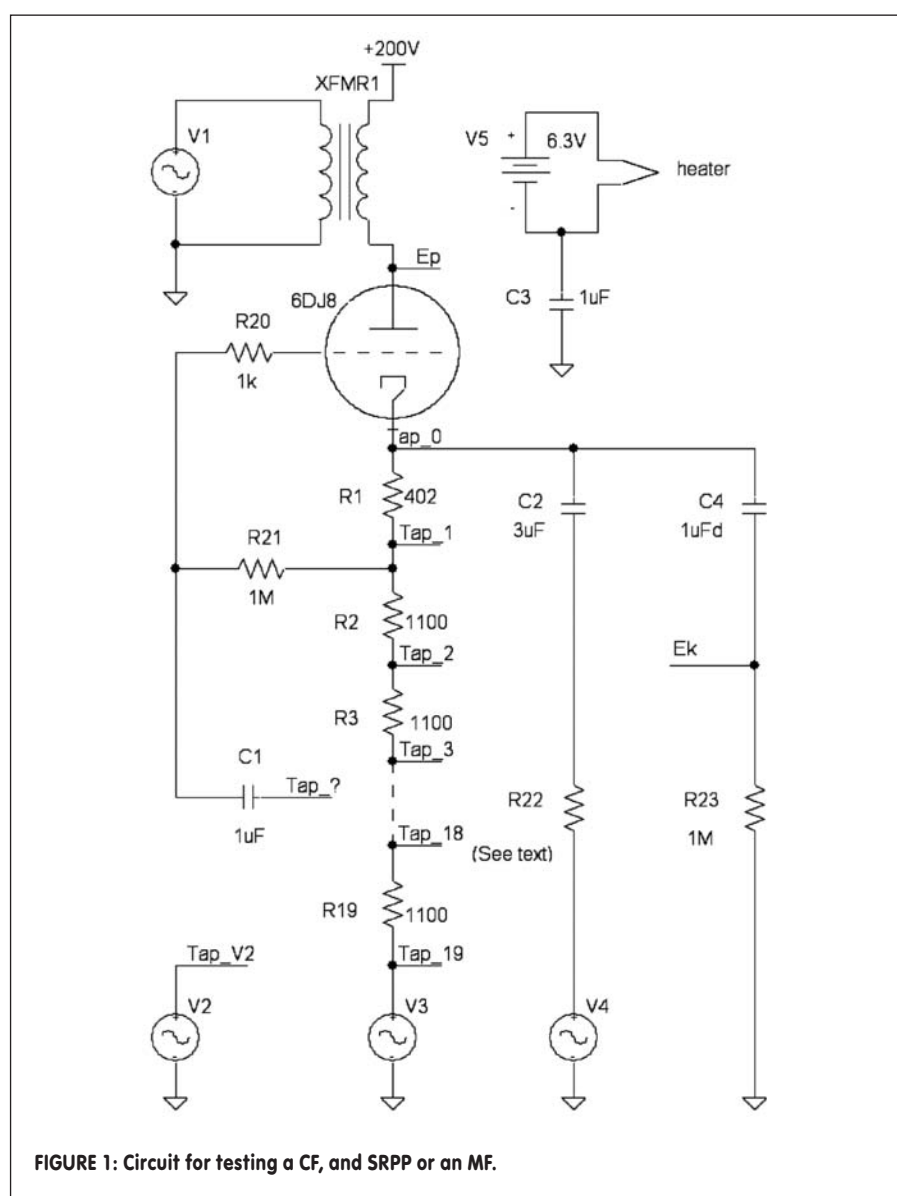

FIGURE 1: Circuit for testing a CF, and SRPP or an MF.
denying bench results, but a validated derivation is priceless when it comes to getting a feel for how a circuit works and for applying and optimizing it. So I'll start with a general-purpose schematic (**Fig. 1**) that illustrates the CF and its variants and how to test them.
In **Fig. 1**, 1100Ω resistors R2-R19 are strung together with 402Ω R1. You can conveniently connect each point between a connected pair of resistors to Tap_? (one side of C1), affording a means to test different cathode follower (CF) variants. A connection of Tap_? to
These three parameters represent excellent figures of merit for a circuit. Consider the equations (derived in the sidebar) which determine them in the **Fig. 1** circuit. Capacitors are assumed to be AC shorts and the 1M resistors are AC open circuits. R_T is defined as the sum of $R_1 + R_2 + \dots + R_{19}$. For SRPPs and MFs, R_k is the value of that portion of R_T between Tap_0 and the selected connection (Tap_0, Tap_1, ... Tap_19) to Tap_?. For CFs, $R_k = R_T$, r_p and g_m are the plate resistance and transconductance, respectively, of the 6DJ8.